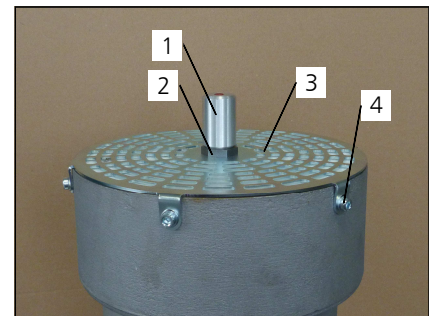

Fig. 1
- Remove the protector cap, the nut and the allen bolts (Fig. 1)